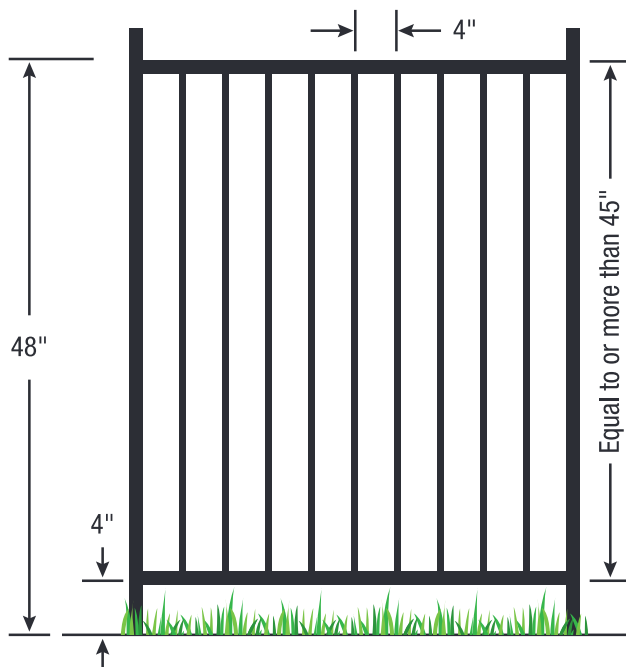

Figure 1
1. The **top of the barrier** should be at least 48 inches above the surface measured on the interior side of the barrier (figure 1).
2. The maximum **vertical clearance between the surface and the bottom of the barrier** should be 4 inches, measured on the exterior side of the barrier. In the case of a non-solid surface, such as grass or pebbles, the distance should be reduced to 2 inches, and 1 inch for removable mesh fences (figures 1 and 10).